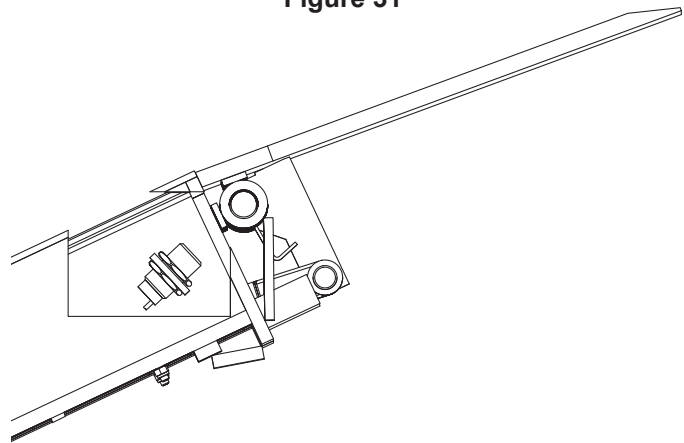
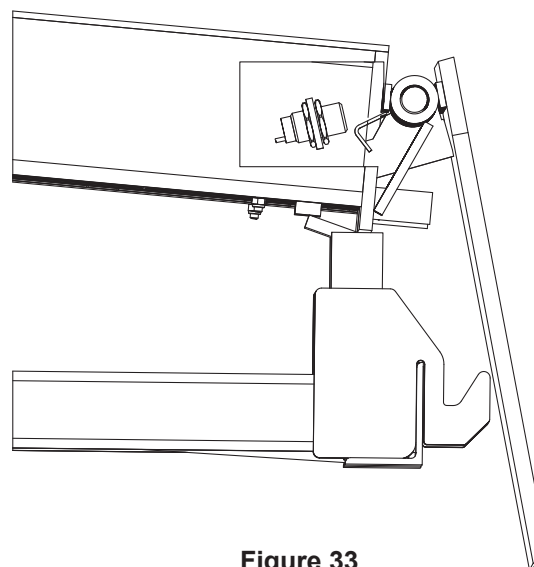

Figure 32
Figure 33
**Not Stored** - Lip plate is outside of lip keepers and is not pendant (not completely folded). Common positions include the Raised Position (**Figure 32**) and Below Dock Position (**Figure 33**). In any condition where the lip is not completely folded, the sensor should not read the target.